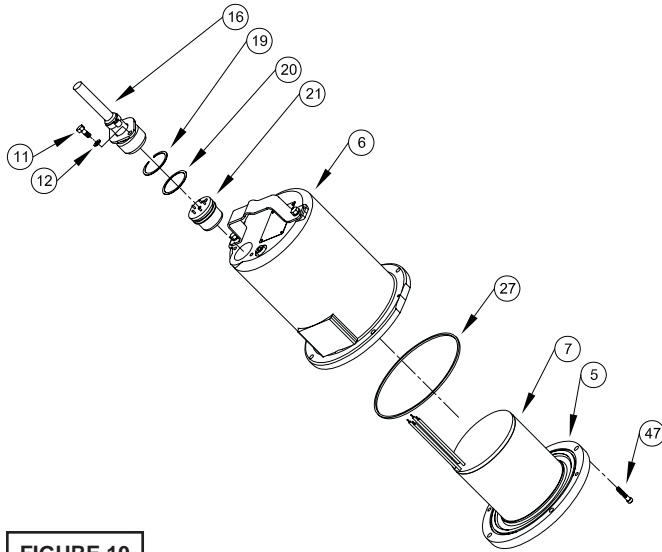

FIGURE 10
Be sure to leave slack on the motor leads connected underneath. Use needle nose pliers to pull each female connector off of the pins on the underside of the terminal block (21) see Figure 10.